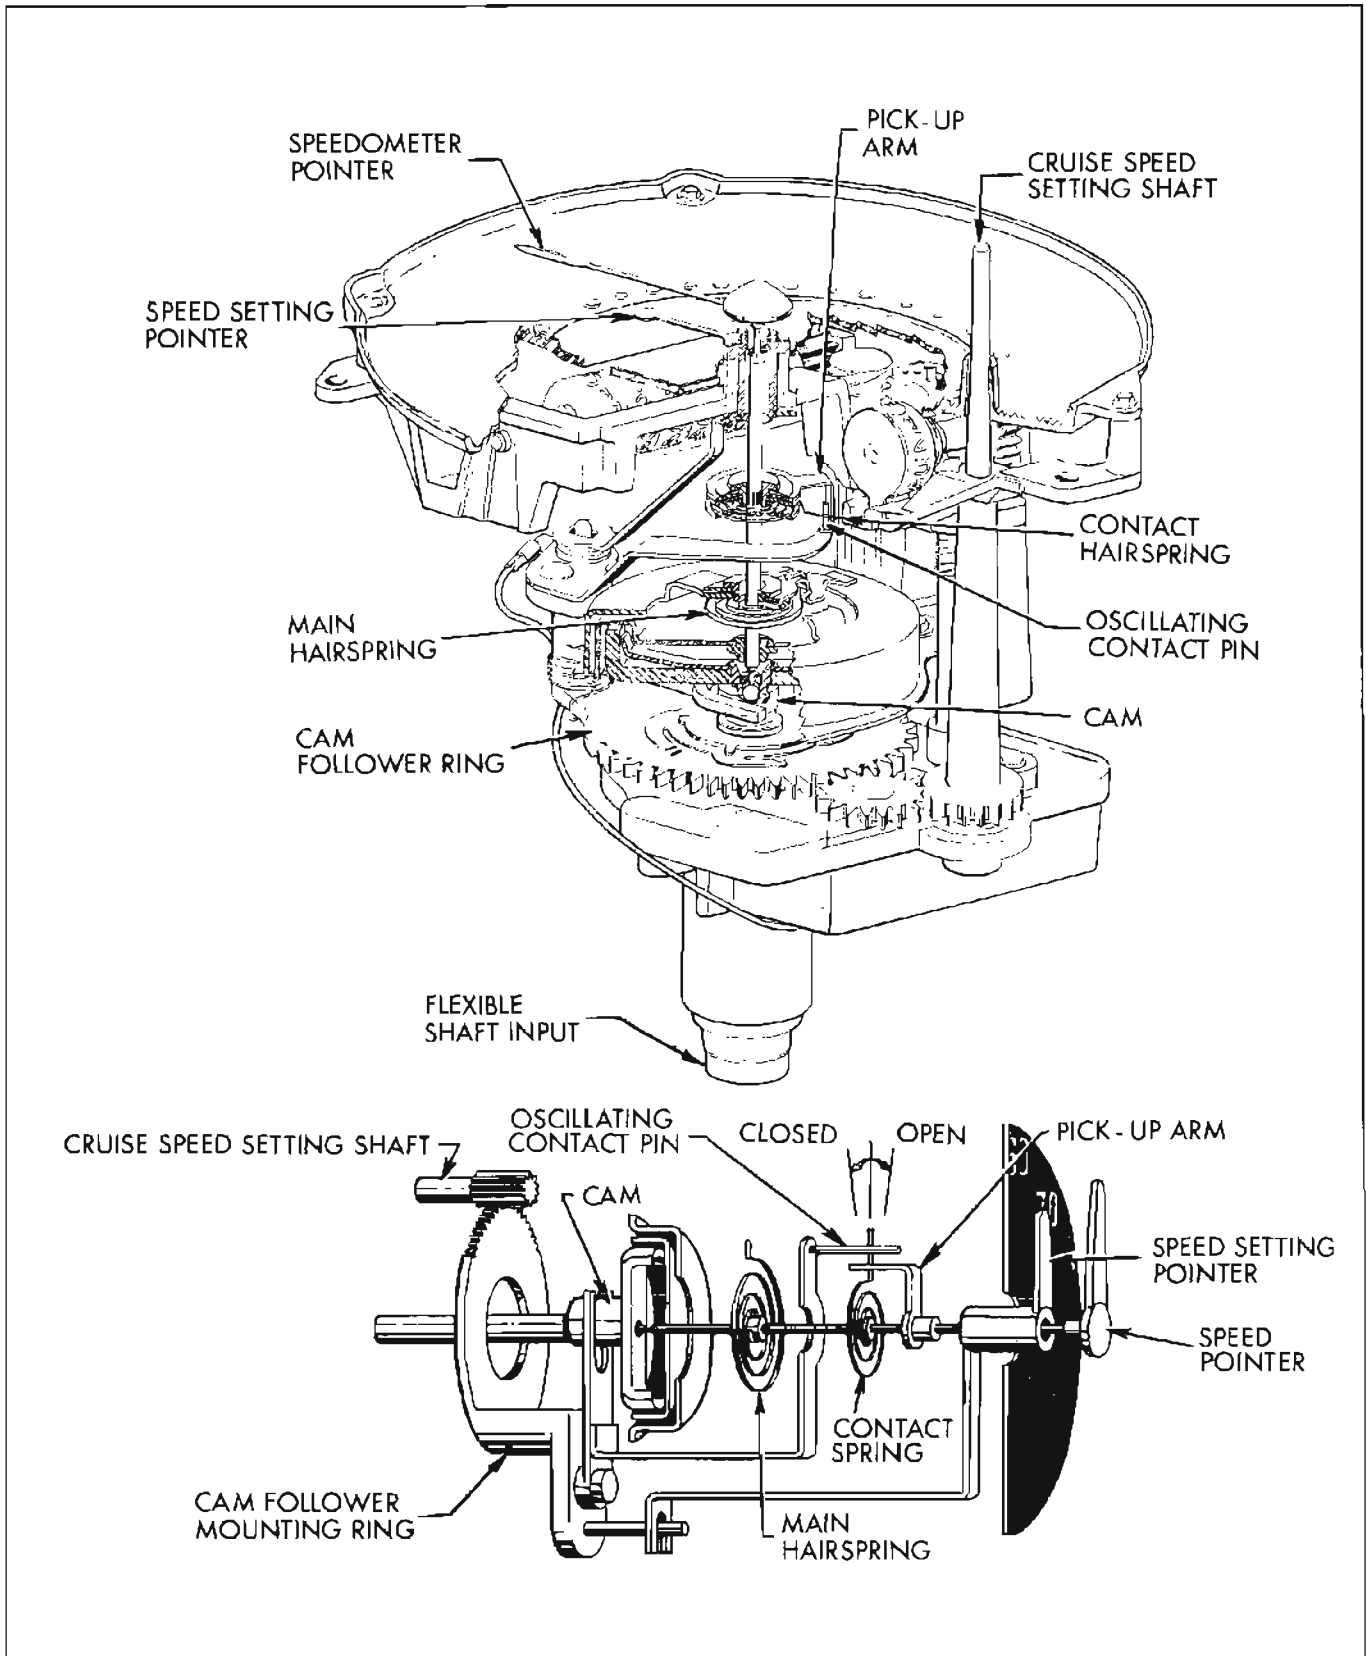

Figure 11-174—Speedometer and Speed Transducer
- The speed transducer is integral with the speedometer and utilizes a cam, cam follower, oscillating contact spring and pickup arm to control the electrical impulses reflected from the electronic control unit to the power unit. See figure 11-174. Position of the oscillating contact pin, which determines the set speed, is adjusted by rotating the cam follower mounting ring through a gear arrangement with the speed setting shaft and knob assembly. Rotating the cam follower mounting ring also moves the speed setting pointer to indicate the relative position of the oscillating contact pin, and, therefore, indicate the actual set speed.